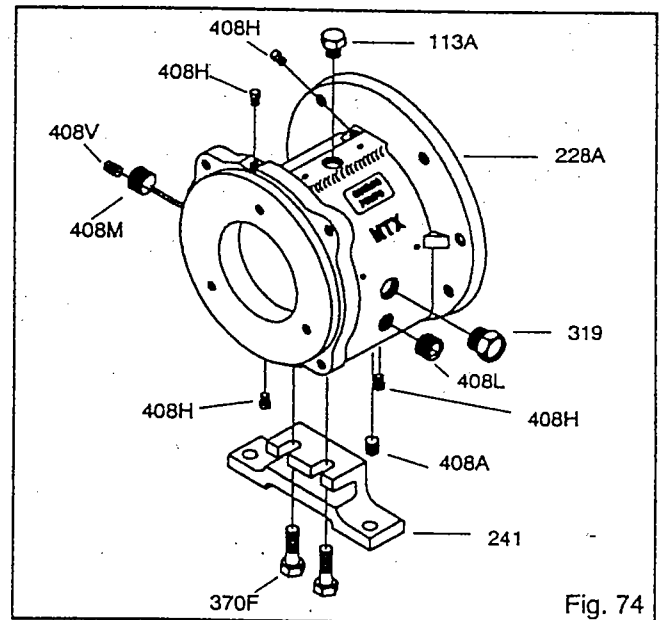

Fig. 74
1. Install oil fill plug (113A), oil drain plug (408A), sight window (319), sight oiler plug (408J), 4 oil mist connection plugs (408H) or grease fittings (193) and relief plugs (113), and oil cooler inlet and outlet plugs (408L, 408M) in bearing frame (228). (Fig. 74)
2. Attach bearing frame foot (241) with bolts (370F). Hand tighten.
3. Установить внешний подшипник (112A) на вал (122).